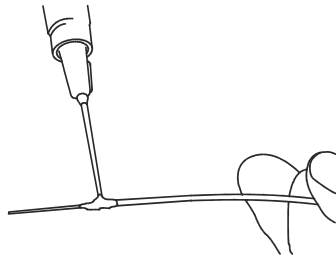

Figure 19. Apply Primer to Buffer
1. **Apply the Primer to Fiber Buffer**—Using the syringe with the primer in it, apply primer to 0.25 inch (6 mm) of the buffer (Figure 19). Avoid getting the primer on the fiber. If several connectors are being terminated, it is recommended that all of the buffers be primed before moving on to the next step.